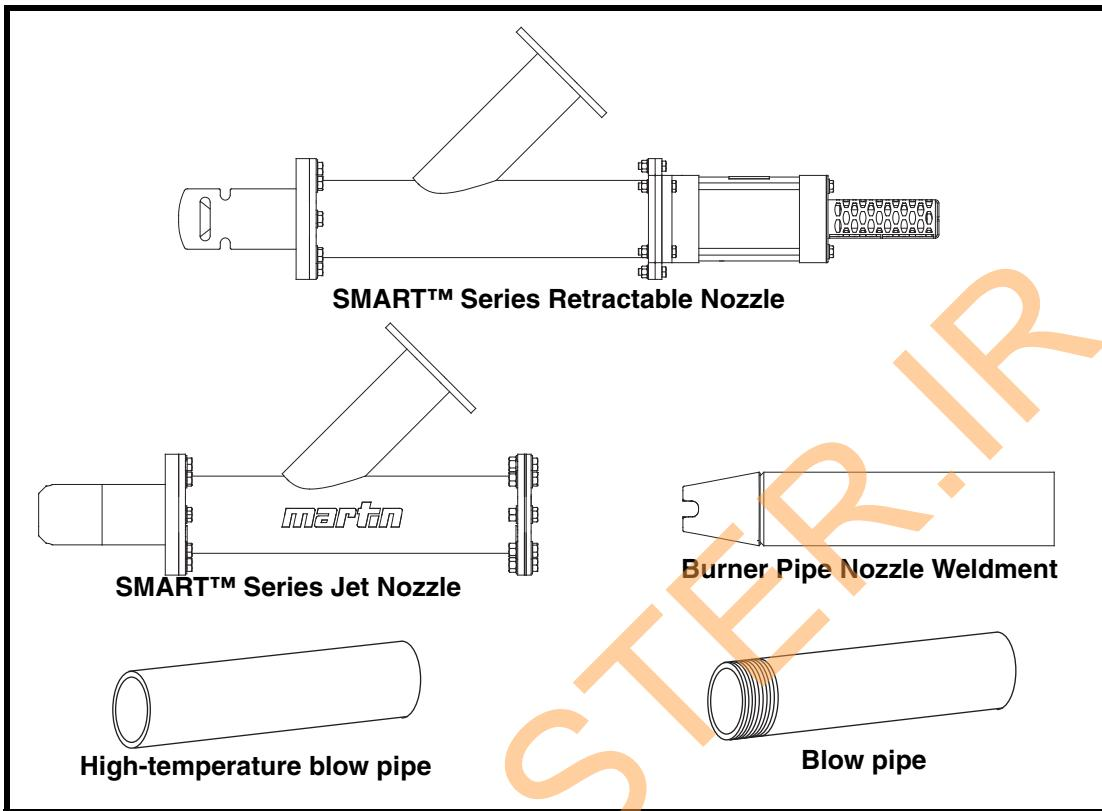

Figure 8. Mounting Nozzles/Pipes for High-Temperature Applications
- d. Martin® SMART™ Series Nozzles and blow pipes (Fig. 8) should be used in applications where the internal vessel temperature exceeds 500°F.